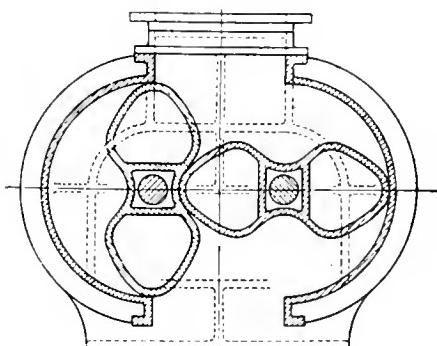

FIG. 2. DIAGRAMMATIC SECTION OF ONE TYPE OF POSITIVE PRESSURE BLOWER.
*Second*—The positive pressure blower from 1 to 10 lb. Fig. 2.